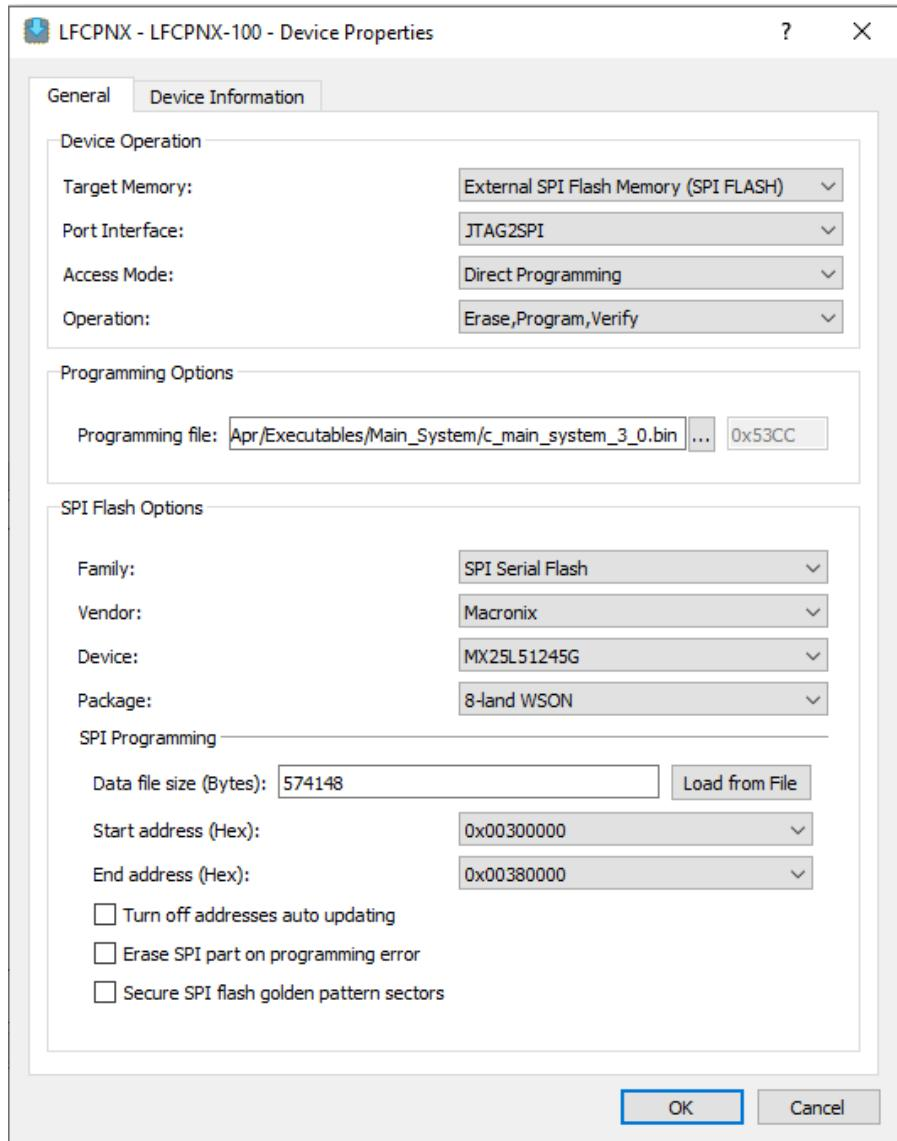

Figure C.5. RADIANT Programmer - Quad Mode Programming
9. To program the bitstream file, select the options as shown in Figure C.5.